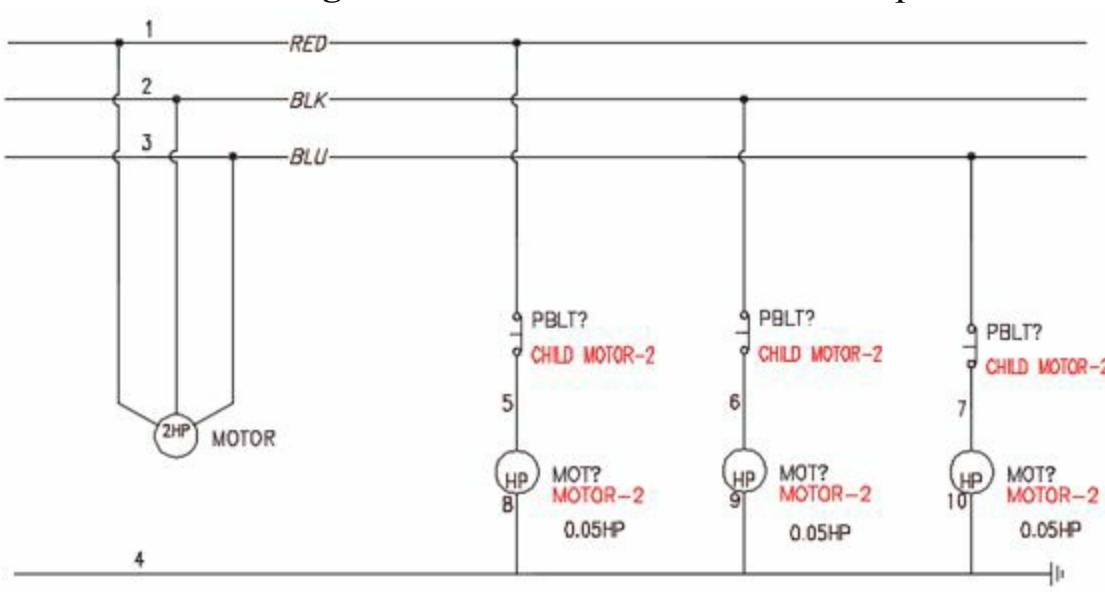

Figure-74. Circuit after connecting components
- Click on the Catalog Browser button and insert the components as shown in Figure-74.